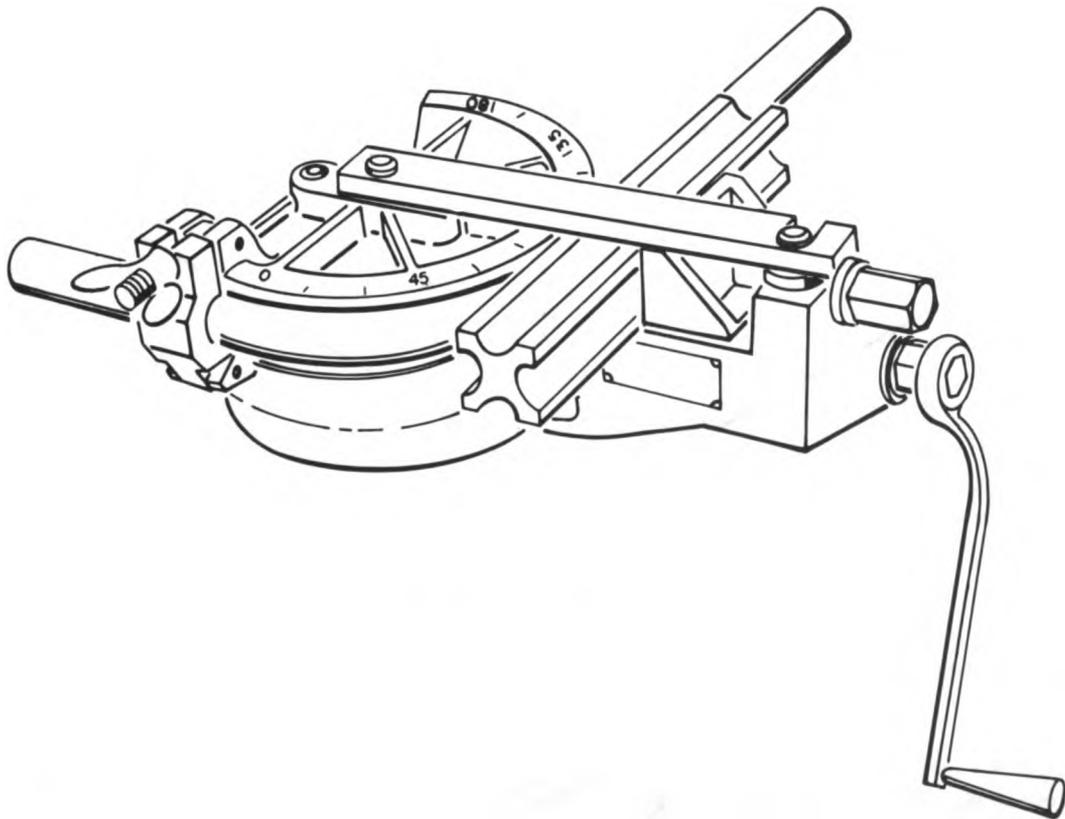

Figure 1-17. Tube Bender.
(4) *Tube bending.* Tube bending capability in the HSTRU is provided by a mechanical tube bender (figure 1-17). This tool is hand crank operated. Individual radius blocks and associated slide blocks are included to provide bends of up to 180°.